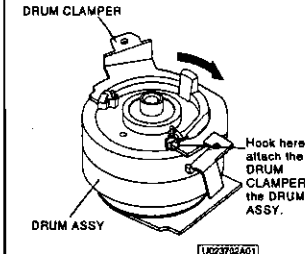

Fig. 2-37-2
- 3 Move the DRUM CLAMPER in the direction shown by the arrow to remove it from the DRUM ASSY as shown in Fig. 2-37-2.
- 1 Attach the DRUM CLAMPER shown in Fig. 2-37-2 to the DRUM ASSY.